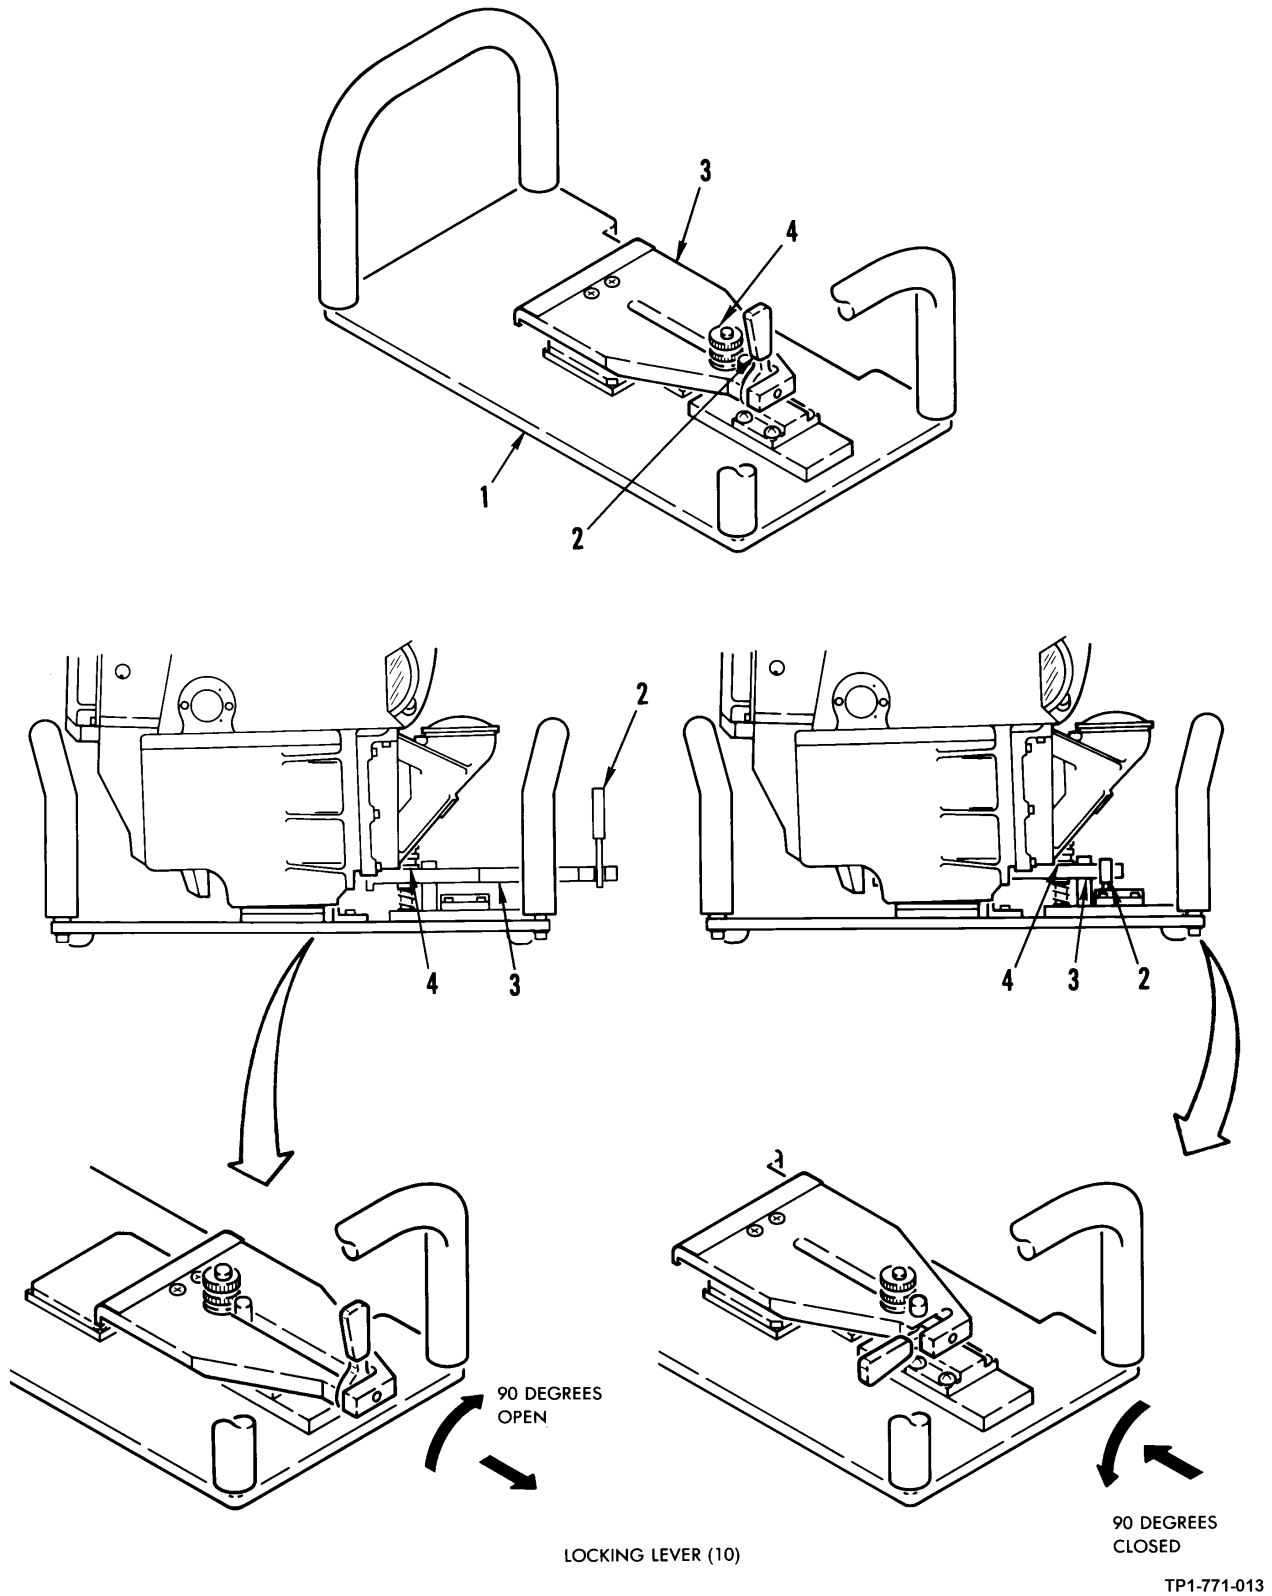

Figure 2-8. UUT Handling Fixture Preparation
- (5) Prepare UUT handling fixture (1, figure 2-8) for attachment as follows:
- (a) Lift (open) locking lever (2) to vertical position to release clamp arm (3).
- (b) Loosen thumb locknuts (4).
- (c) Slide clamp arm (3) toward locking lever (2) as far as it will go.